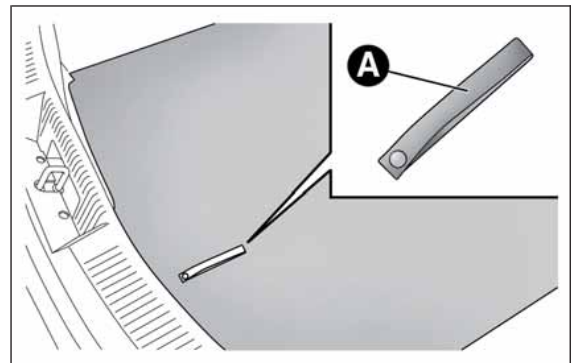

fig. 114
- open the luggage compartment, pull tab A fig. 114 and lift up the mat;